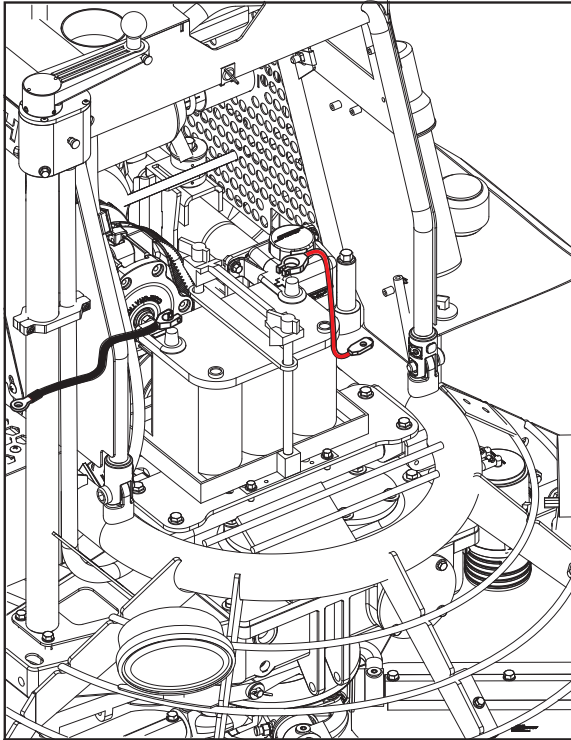

Figure 10. Battery Box
2. Connect the positive cable (**RED**) to the positive terminal on the battery first, then connect the negative cable (**BLACK**) to the negative terminal (Figure 10).